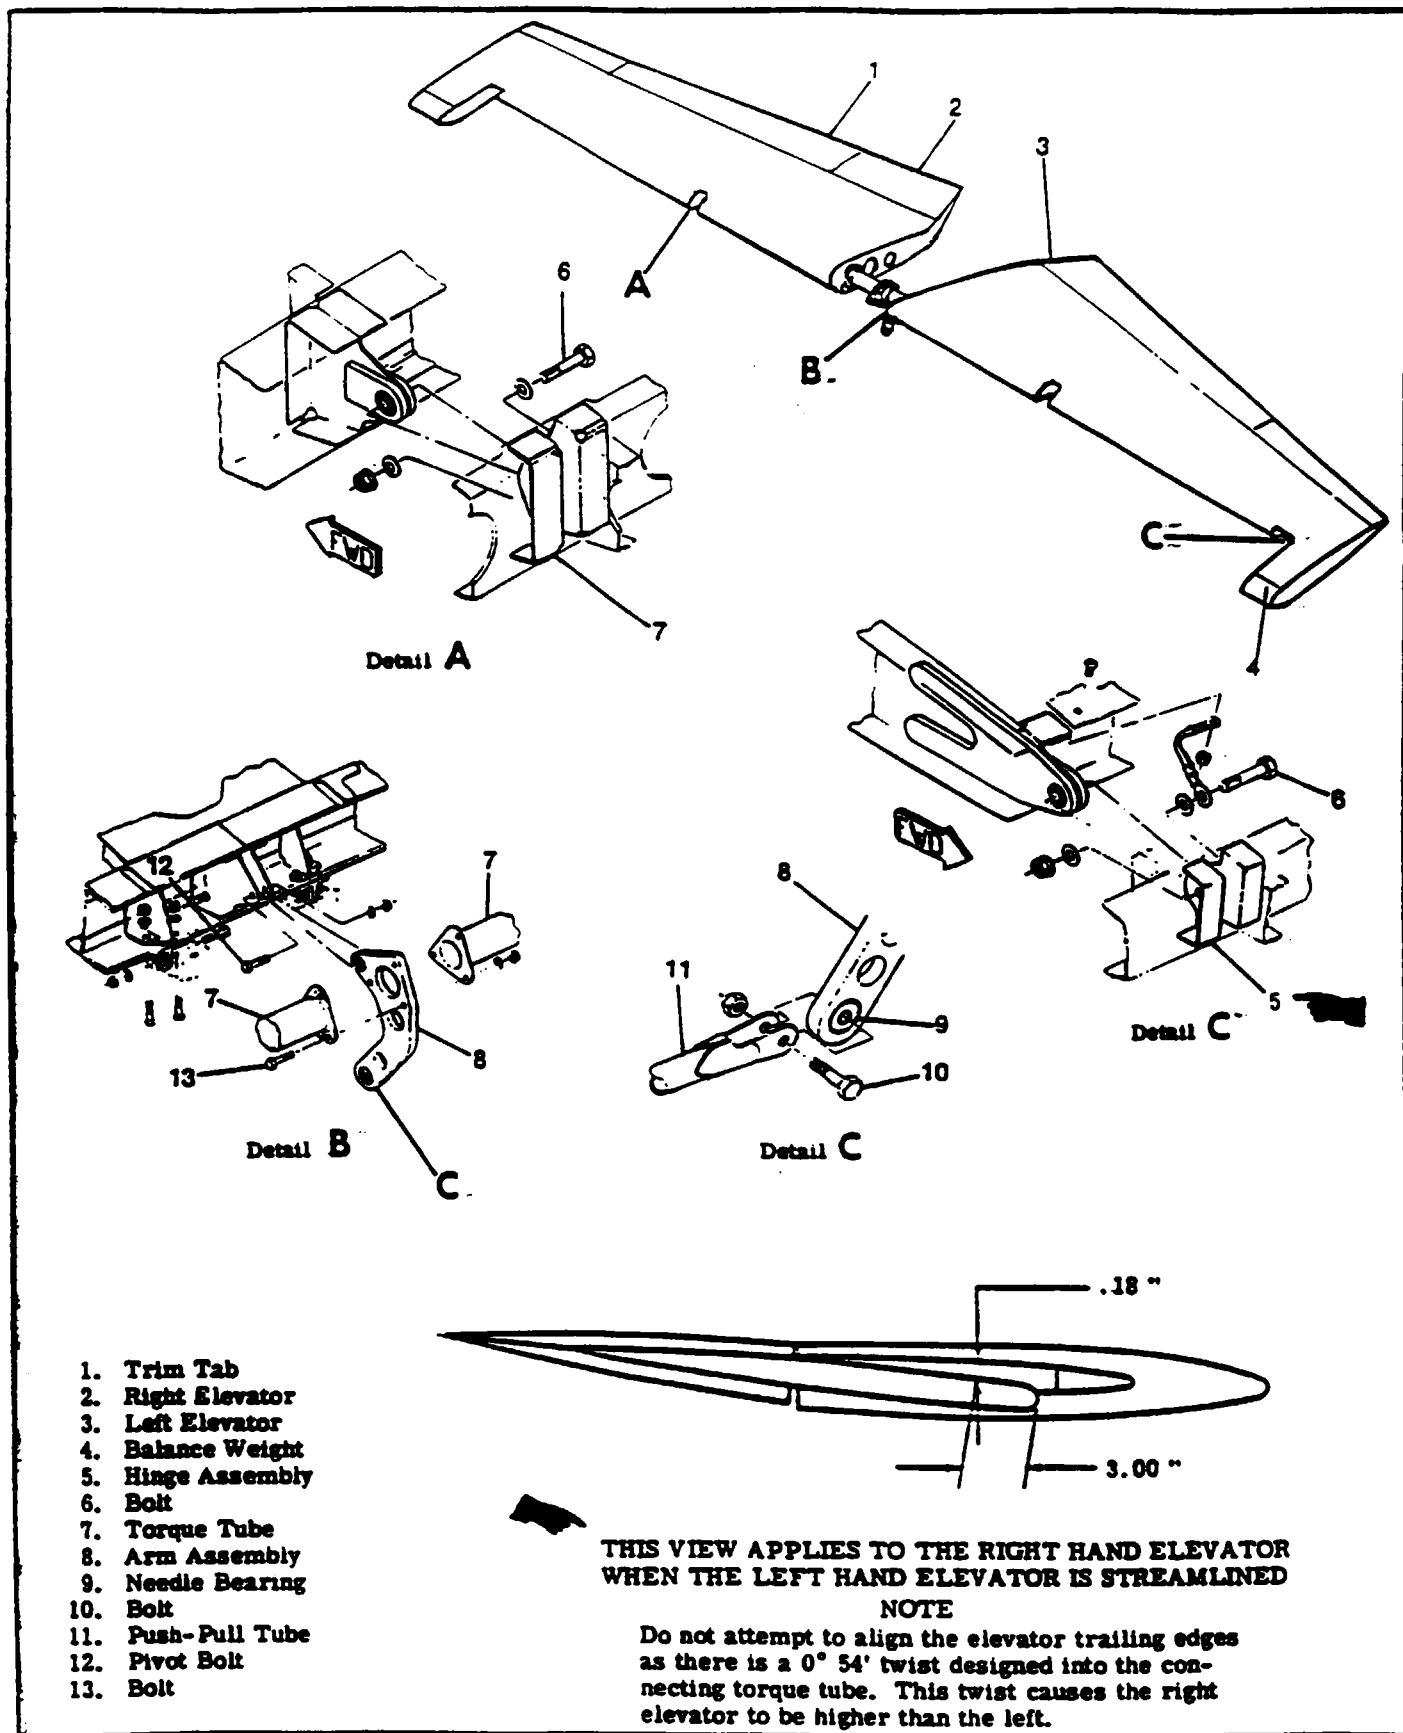

Figure 8-2. Elevator installation
#### 8-5. ELEVATORS. (Refer to figure 8-2.)
- Remove bolts (6) from elevator hinges (5).
- Set right hand elevator maintaining 0.18" dimension specified in figure 8-2.
- When reinstalling bolts (13) install a washer under the head of each bolt and under each nut.
## 8-10. ARM ASSEMBLY. (Refer to figure 8-2.)
- b. Remove bolt (10) securing push-pull tube (11) to arm assembly (8).
- c. Remove bolts (13) securing elevator torque tubes (7) to arm assembly (8). A heat gun may be required to soften epoxy adhesive on bolt (13).
- d. Remove pivot bolt (12) securing arm assembly (8) and slide assembly from between elevator torque tubes.
- f. Set right hand elevator maintaining 0.18" dimension specified in figure 8-2.
- g. When reinstalling bolts (13) install a washer under the head of each bolt and under each nut. Apply Adhesive EA-9309 from Hysol Division, Dexter Corp., or its equivalent, only to the shanks of bolts (13). Wipe off excess adhesive after installation.
- b. Adjust turnbuckles (10) equally to streamline LEFT elevator with horizontal stabilizer (RIGHT elevator will be higher than the left as illustrated in figure 8-2) and to obtain  $30 \pm 10$  lbs cable tension. Safety turnbuckles.